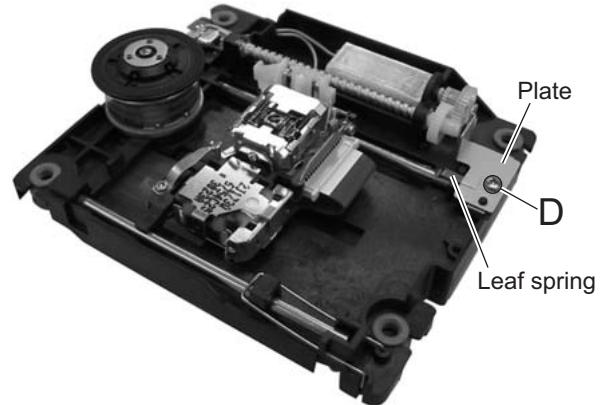
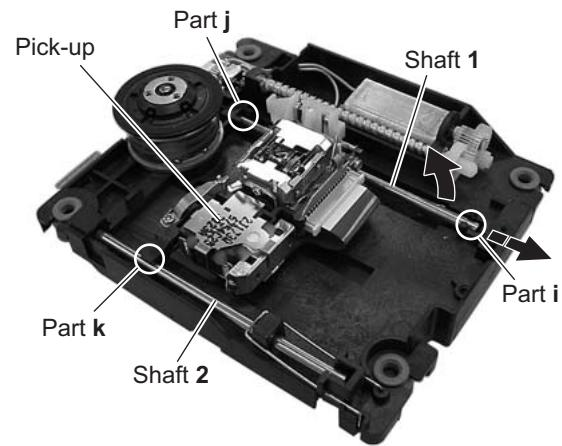
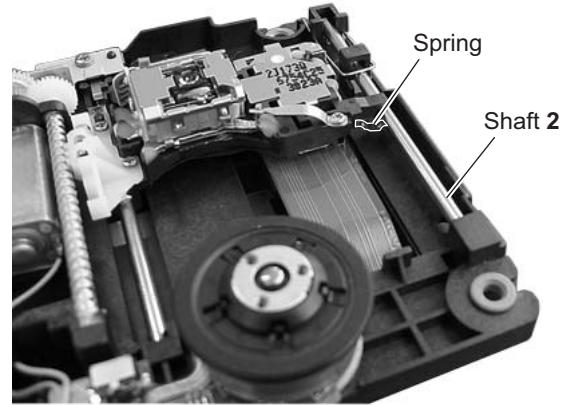

Fig.12
Fig.13
Fig.14
2.3.1 Removing the pickup (See Figure 12, Figure 13, and Figure 14)
As Figure 14 shows, the spring must come under the shaft **2**.